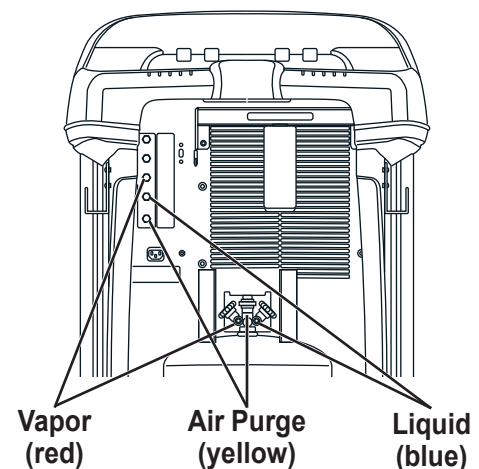

Figure 2
5. Connect the non-quick-seal ends of the hoses to the appropriate ports on the unit. See Figure 2.